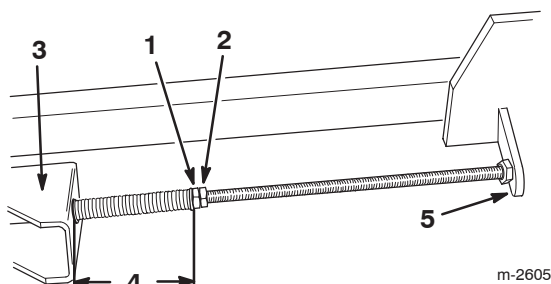

Figure 41
4. Loosen the jam nuts on the adjusting shafts to relieve the tension on the drive belt, then remove the worn drive belt from the pulleys (Fig. 41).
5. Install the replacement drive belt around the drive pulley on the traction unit and the spindle pulley (Fig. 41).
6. Install the belt guide on the mower with the two flange-head bolts. Ensure that the formed loops face toward the rear of the mower (Fig. 41).
7. Tighten the front jam nut on each adjusting shaft until the springs are completely compressed, approximately 4-3/4 inch (12 cm) measured between the washer and the bushing, then back the front jam nuts off one turn (Fig. 41).
Important Do not overtighten the jam nuts after the springs are fully compressed, as this can damage the drive belt (Fig. 41).
8. Tighten the rear jam nuts (Fig. 41).